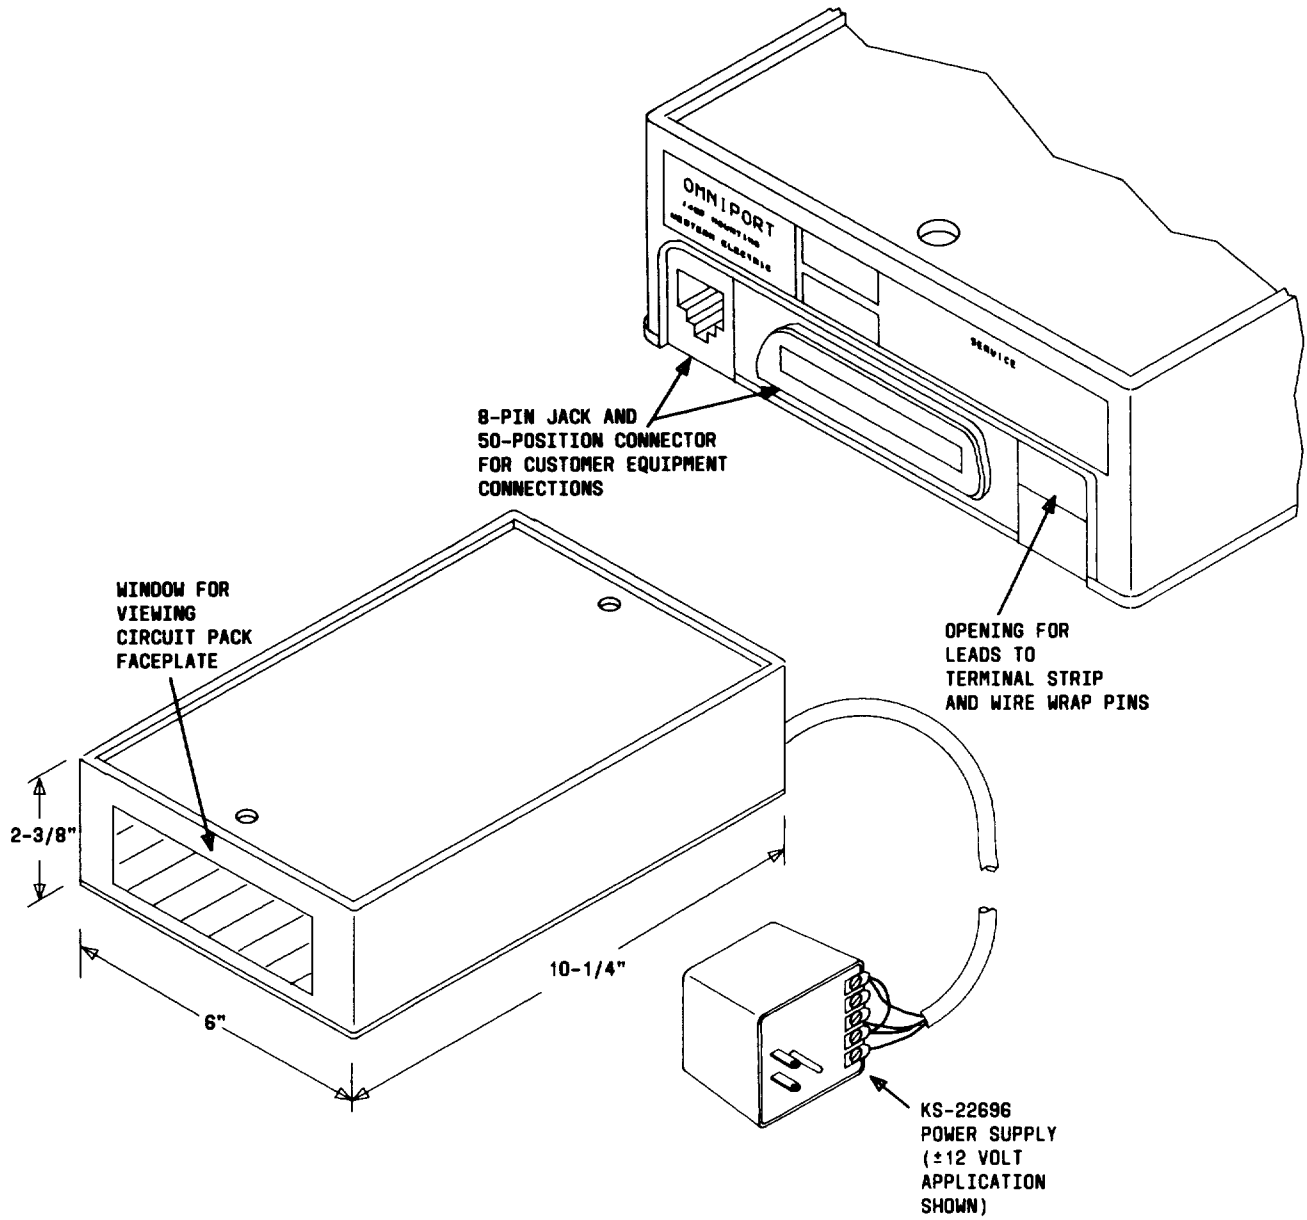

Fig. 1 — 146B Mounting and KS-22696 Power Supply (±12 Volt Application Shown)
**3.01** The 146B mounting shown in Fig. 1 consists of a formed metal base and a molded plastic cover. The mounting is 2-3/8 inches high, 6 inches wide, 10-1/4 inches long, and weighs 1-1/4 pounds. Keyhole slots are provided on the unit base for wall mounting, or the unit can be mounted on a desk or shelf.